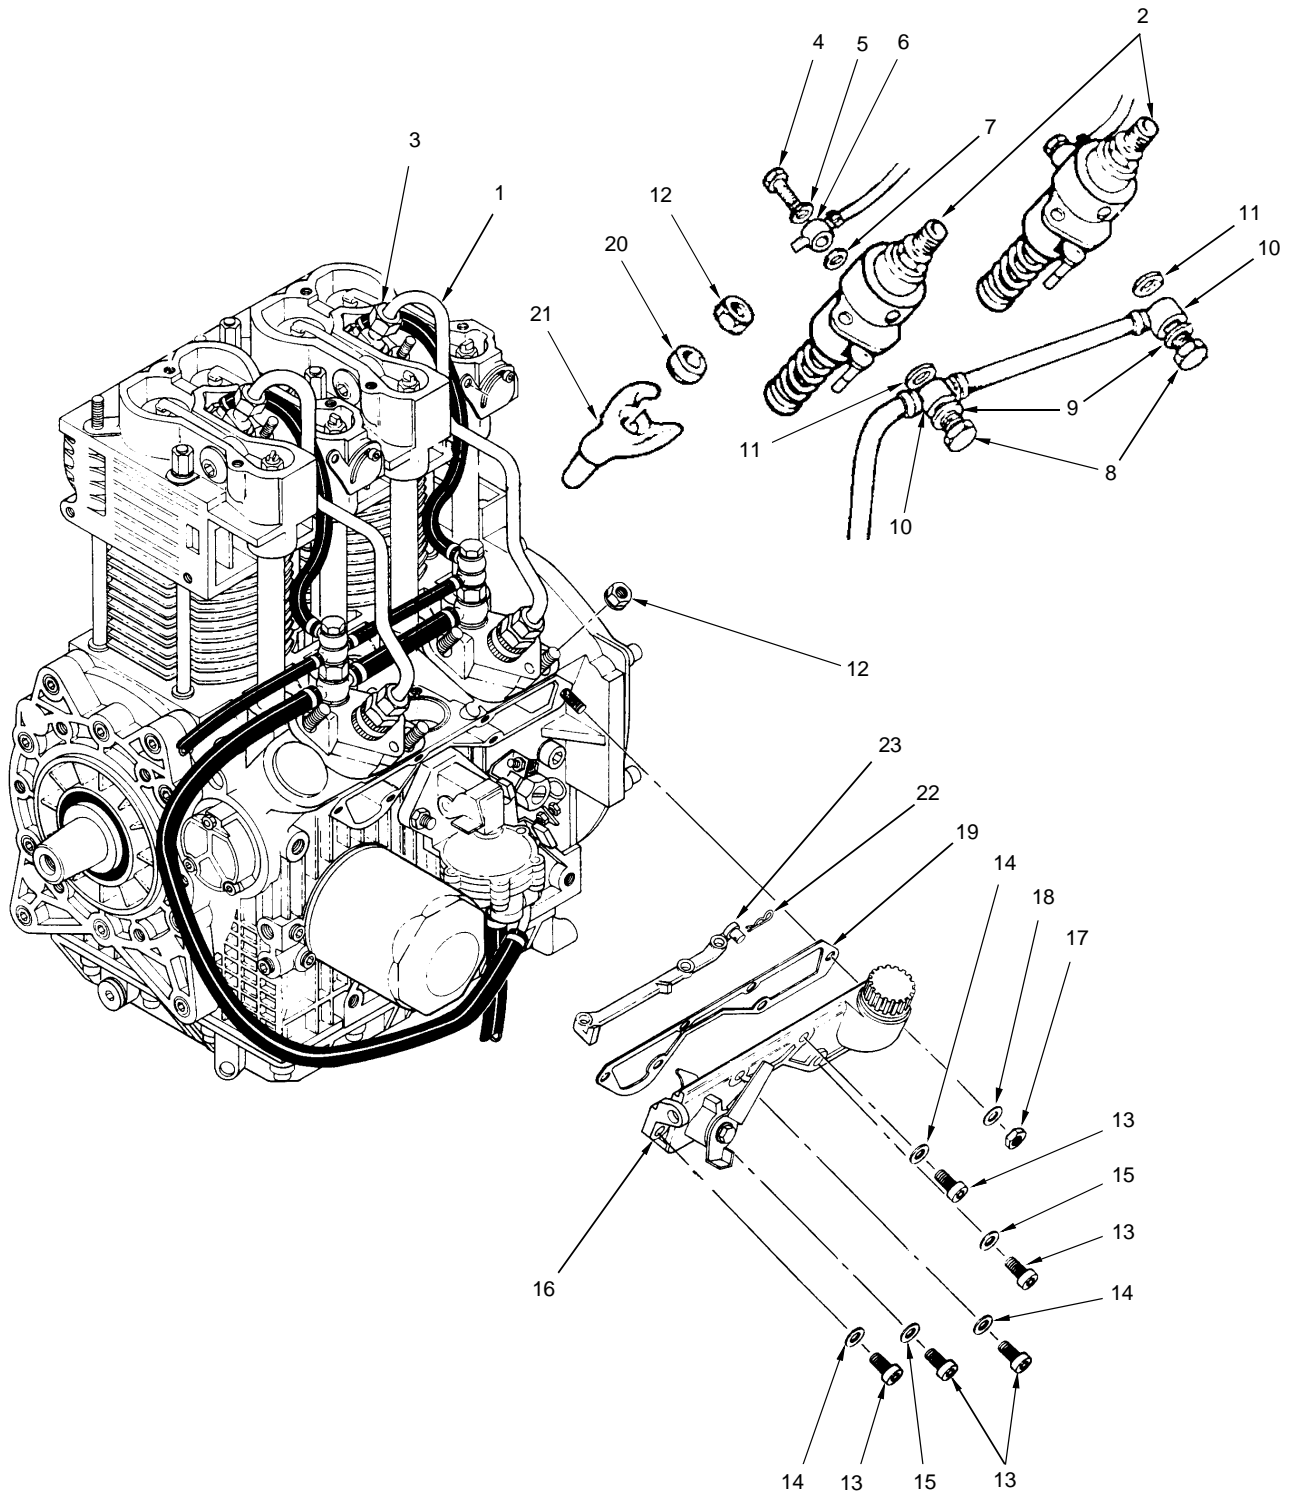

Figure 10. Fuel System Components Removal
**REMOVE INJECTION PUMP.** (Refer to figures 10 and 11.)**INITIAL SET-UP:****Tools:**
Refer to figure 10.